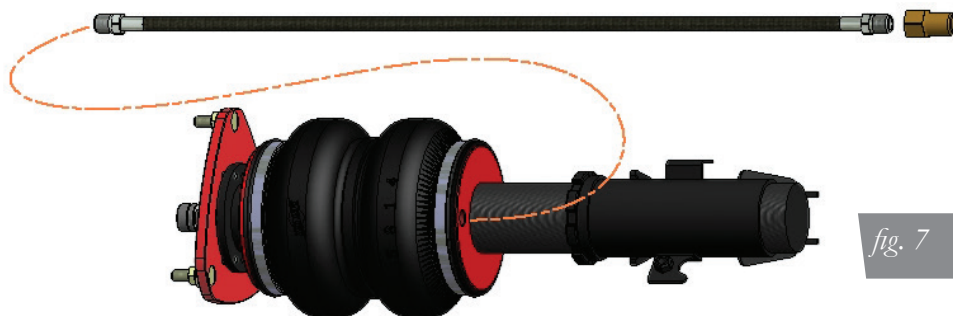

fig. 7
1. Begin by installing the leader line into the air spring (fig. 7). Wrap the threads of the leader hose with Teflon tape or thread sealant. Tighten the appropriate fitting to the airline 1 and 3/4 turns beyond hand tight. Tighten the leader line into the air spring 1 and 3/4 turns beyond hand tight.